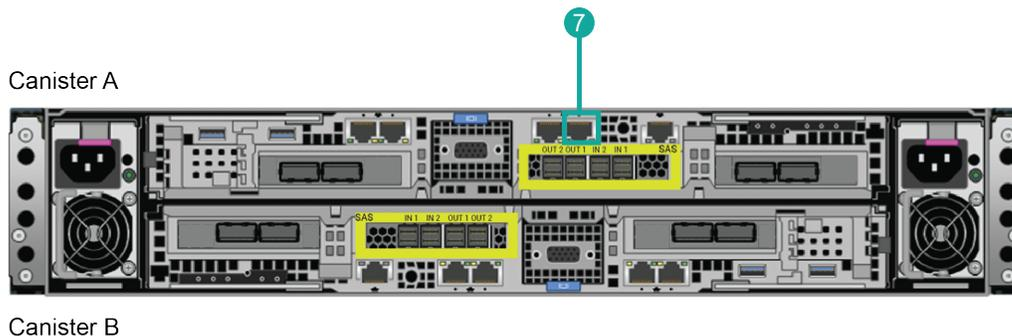

Figure 1: Rear panel of the H-Series Head Unit
1. Remove the laptop cable from the management port (port 7 in figure 1) on Canister A and connect the permanent management cable back to that port.